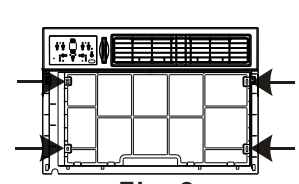

Fig. 2
3. Check your storm windows-If your storm window frame does not allow the clearance required, correct by adding a piece of wood as shown in Fig. 2, or by removing storm window while room air conditioner is being installed.
3. Locate and remove the four front screws. These screws will be needed to re-install the front panel later. (See Fig. 2.)